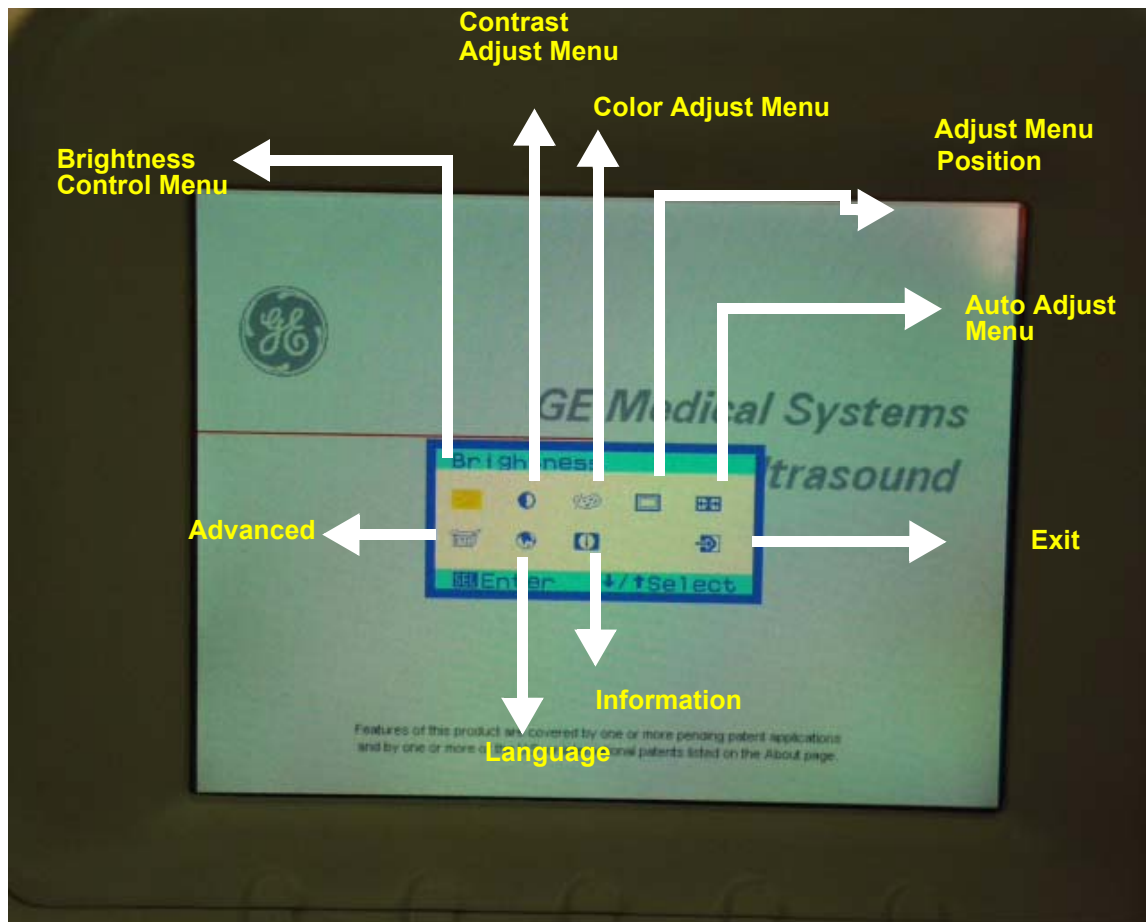

Figure 6-11 OSD Menu Display
3.) OSD Menu is shown on the LCD screen. Refer to Figure 6-11 on page 6-10 .